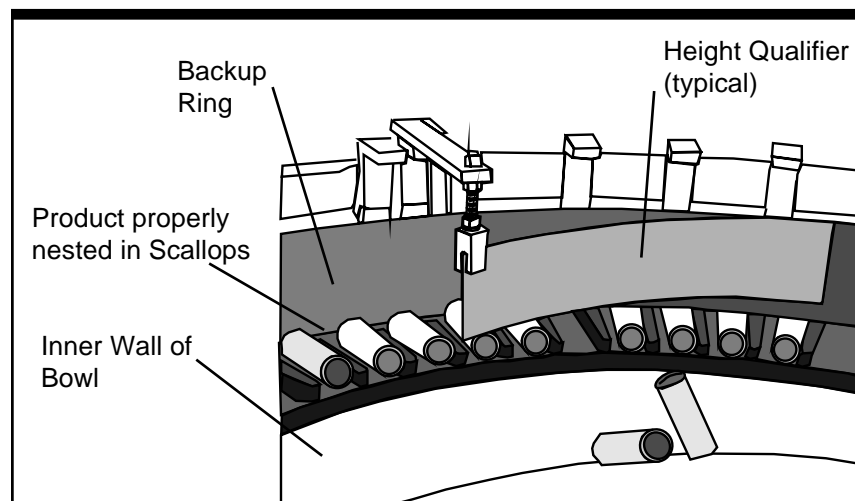

Figure 1-3. Qualifying Parts in the Scallops
8	Figure 1-3. FS-40-RD Feeder Specifications
Step 2—The FS-40/50-RD Feeder Loads and Qualifies Your Parts. After dropping onto the rigid disc, parts load quickly onto the scalloped rim of a rotating bowl. The parts are singulated between scallop fingers which help orient the parts (refer to Figure 1-3).